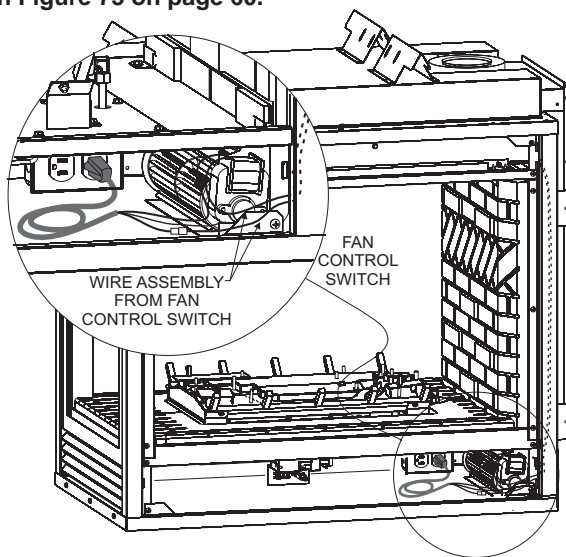
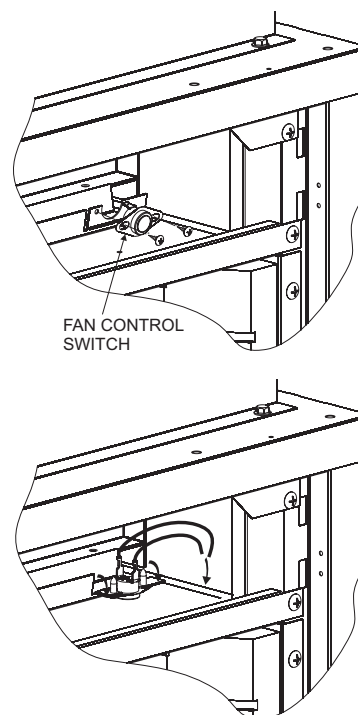

Figure 71
Figure 72
To install the blower kit or access the junction box, remove lower louver as illustrated by figure 71.
4. Insert blower assembly into interior, bottom of fireplace. Note: On peninsula models, the blower must be installed at the end which has the brick panel installed. Position blower assembly so that you align the notch on back of blower assembly with the center screw on side/end panel, then push the blower assembly against fireplace outer panel. The blower wheel must be centered with the side/end wall of the fireplace. The magnets on the back and bottom of blower assembly will sufficiently hold blower assembly in place. **See Figure 71.**
5. Once the blower assembly is in position, remove the upper louver as shown and locate the switch tab (end of support channel) on top of the firebox. Install the fan control switch by first removing the two pre-installed screws in the tab, then secure the fan control switch to the tab. **See Figure 72.** Once the fan control has been secured, bend the tab forward so that the face of the fan control is pushed down so it contacts the firebox top.
6. Next, find the fan control wire assembly. Feed the wires over the top of the firebox. The fan control wires will slide down between the firebox and outer wrap near the blower assembly. **See Figure 71. Attach the two 3/16" wire terminals to the fan control switch as shown in Figure 72. Attach the wire terminals at the blower as shown by letters "A" and "B" in Figure 75 on page 60.**